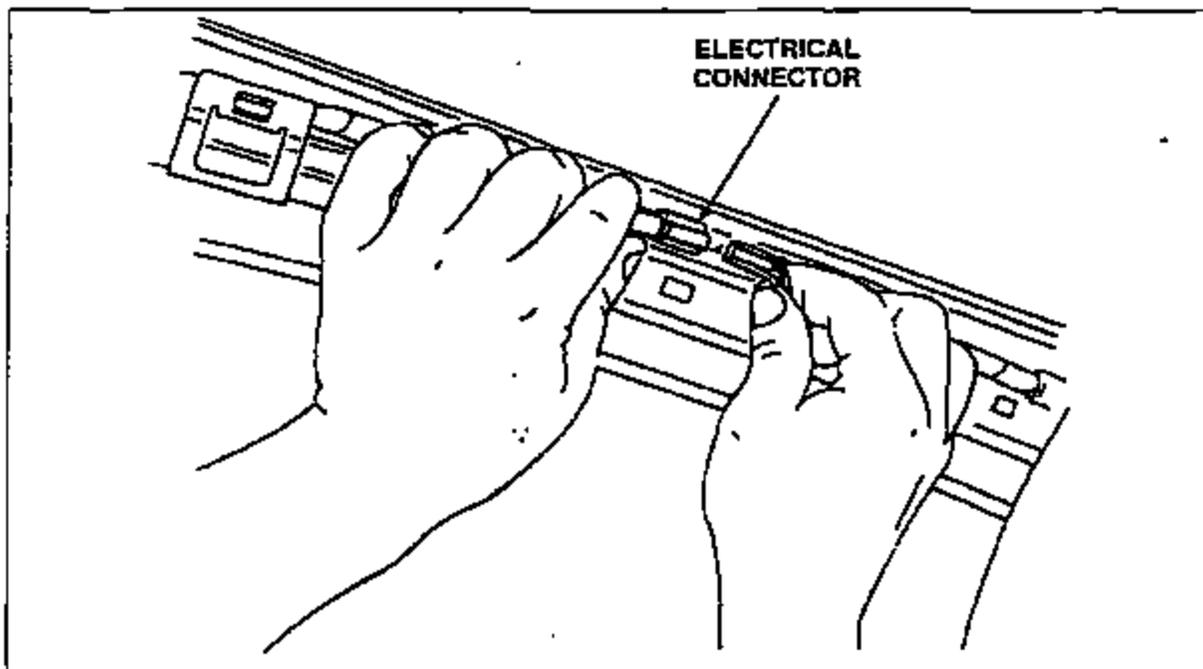

FIGURE 2
6. Disconnect the front limit switch electrical connector. See Figure 2.